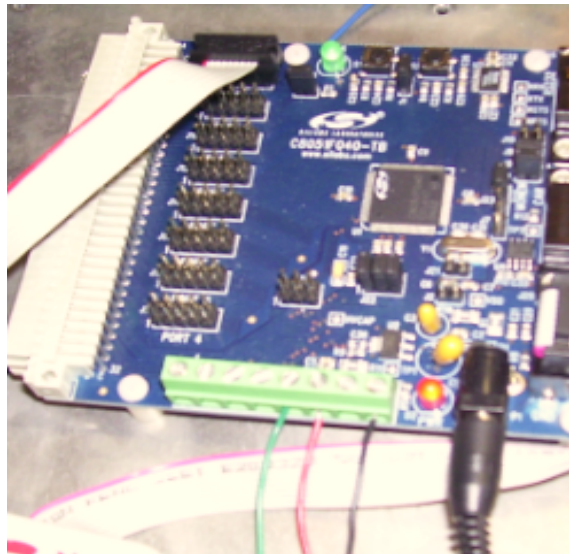

Figure 12: 8051 Power Connection and Module Plug In
- 4) The 8051 development boards need to be plugged into the control and meter box modules to ensure the proper delivery and receiving of CAN information. Each 10-pin connector from the modules should be plugged in such that Pin #1 aligns with the corresponding Pin #1 on the port of the MCU. If this has been plugged in correctly, the ribbon should be facing **towards** the power connection of the board. This correct configuration is shown in the following Figure 12.